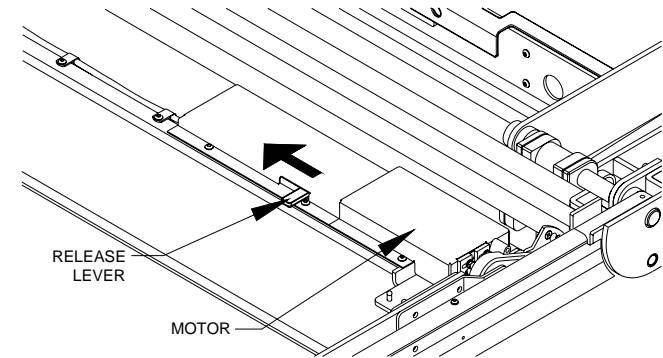

FIGURE 2-11: BRIDGEPLATE RELEASE MECHANISM
Refer to **Figure 2-11**. The bridgeplate is normally raised and lowered with an electric motor. A release lever is provided to disengage the drive system when manual operation is necessary. Move the lever to the left and hold it (a spring pushes the lever to the right) and then raise or lower the bridgeplate by hand. When the bridgeplate is moved to the vertical position it will lock in place when the lever is released.
- 2) Refer to **Figures 2-11** and **2-16**. Move the bridgeplate release lever to the left, hold it there, and then lower the bridgeplate down onto the platform.